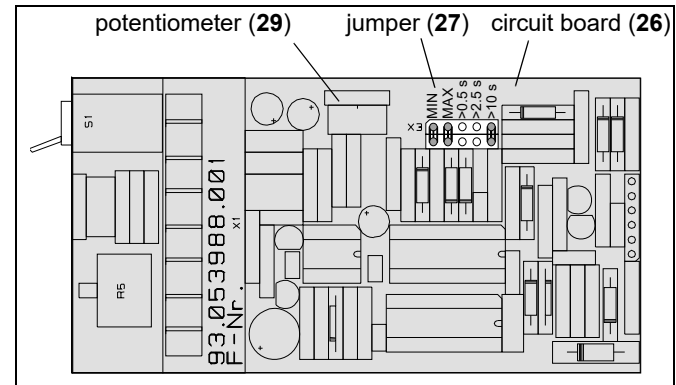

Fig. 6-2: Position of the plug-in bridges (jumper (27))
The EDO rotational speed monitoring devices is delivered for low speed monitoring. Set the required operating mode by changing the jumper (27) on the circuit board (26) (s. fig. 6-2).
1. Open the plastic housing (8) and carefully pull out the circuit board (26) (s. section 6.1.1).
2. Change the jumper (27) from MIN to MAX.
3. Insert the circuit board (26) into the device and reassemble the speed monitoring device.
The **switching hysteresis (distance of the switching point)** of the rotational speed monitoring device is **10 %** of the set switching point. By means of the potentiometer (29) on the circuit board (26) the switching hysteresis can be modified from to 3% up to 30% (s. fig. 6-2).
In order to avoid malfunctions, the switch-off of the output relay can be delayed by means of the jumper (27) on the circuit board (26) (s. fig. 6-2).